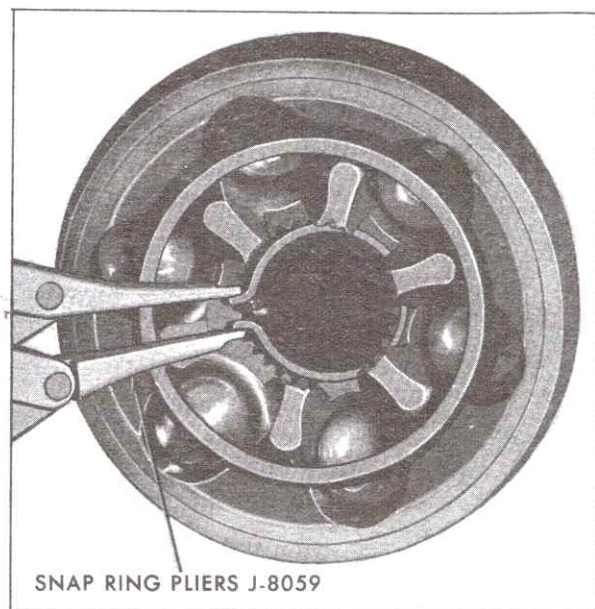
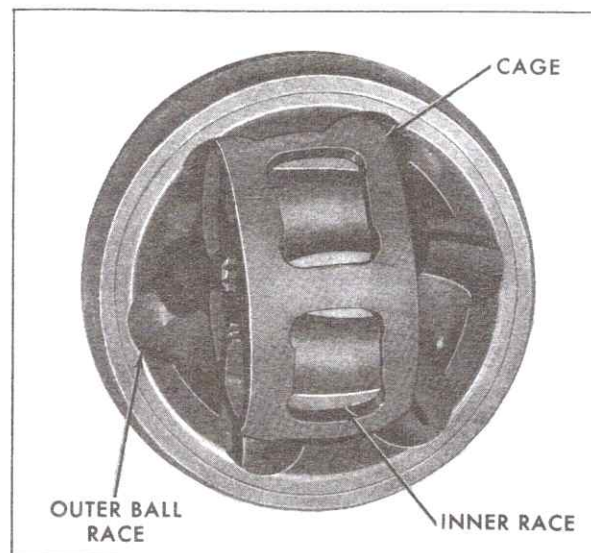

Fig. 3-51 Removing Inner Race Snap Ring
Fig. 3-53 Removing Cage and Inner Race
5. Remove inner race snap ring as shown in Fig. 3-51.
8. Turn cage 90° as shown in Fig. 3-53, with slot in cage aligned with short land on outer race and lift cage out with inner race.
3. Align inner race as shown in Fig. 3-53, and pivot inner race 90° to align in outer race as shown in Fig. 3-51.
8. Install snap ring into inner race as shown in Fig. 3-51.